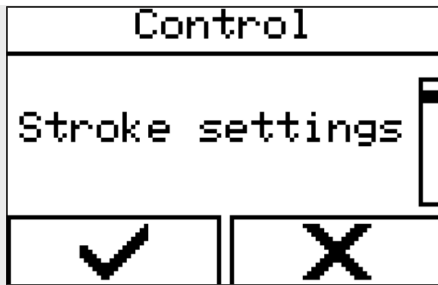

Fig. 35: 'Stroke settings' menu
- ⇒ The menu item 'Stroke settings' (Fig. 35) has been selected.